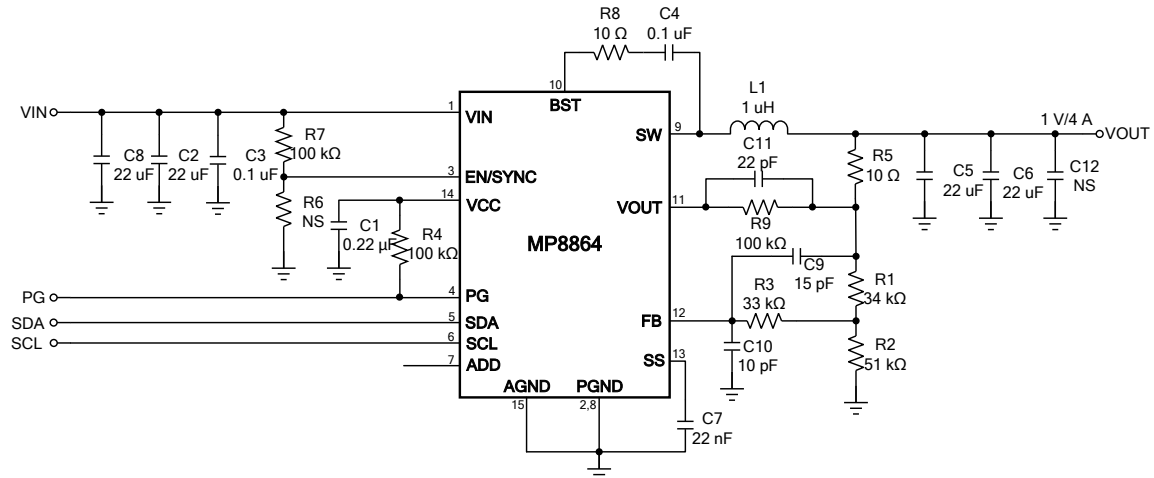

Figure 15—12 V Input-1 V/4 A Output
- 13) The recommended layout is based on Figure 15 and the Typical Application circuit on page 26.